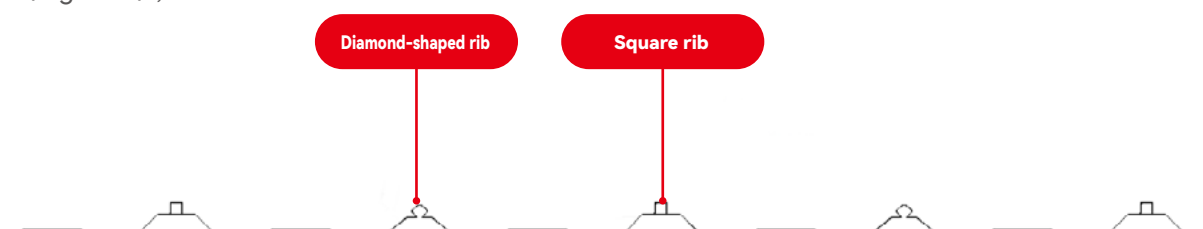

FIGURE 1
- Angle-chip colour steel roofing Square rib and Diamond-shaped rib forming its corrugations. (Figure 1) ;